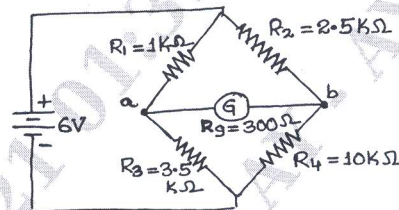

Fig.Q.8(c)
- c. An unbalanced Wheatstone bridge shown in Fig.Q.8(c), calculate the current through the galvanometer. (05 Marks)